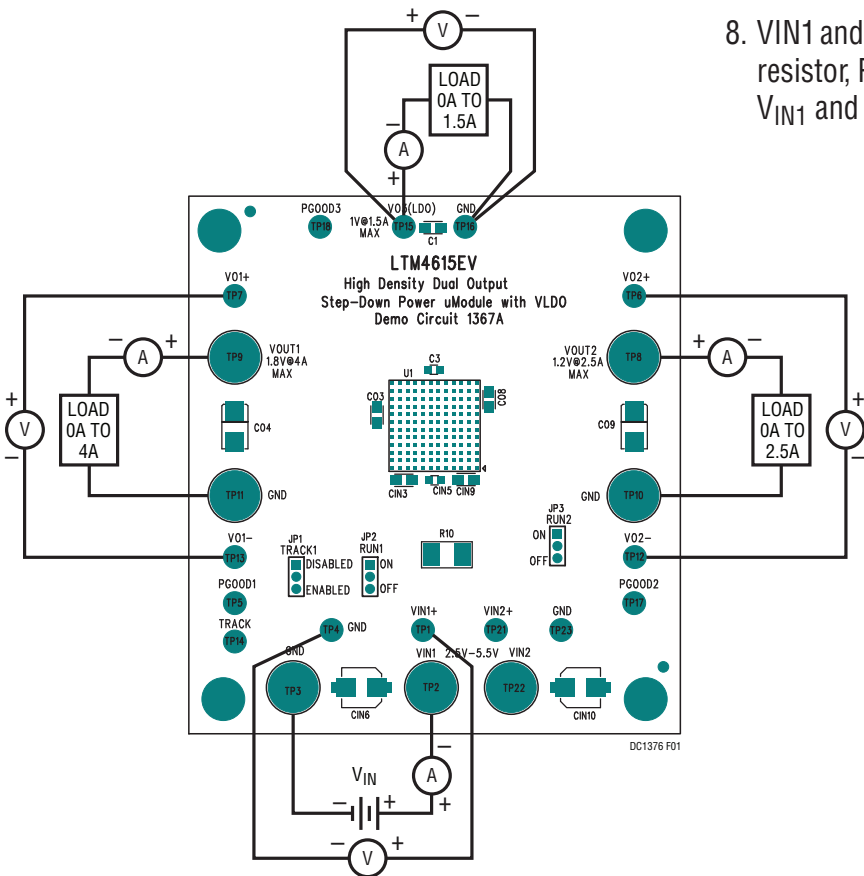

Figure 1. Test Setup of DC1367A
Demonstration circuit 1367A is an easy way to evaluate the performance of the LTM4615. Please refer to Figure 1 for proper measurement equipment setup and follow the procedure below:
2. With power off, preset the loads to 0A and V_{IN} supply to be 5V. Connect the input power supply, load and meters as shown in Figure 1.